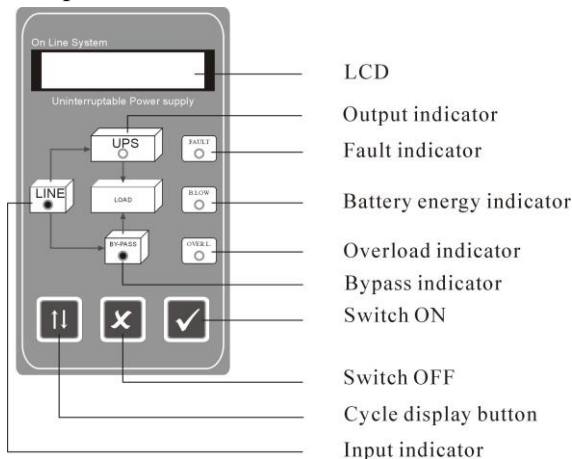

Figure 15
1. Please switch electric power switch NO FUSE BREAKER (NFB) on the back panel to the “ON” position. Input indicator light and bypass indicator light on the front panel are lit on at the same time. As follows figure 15.